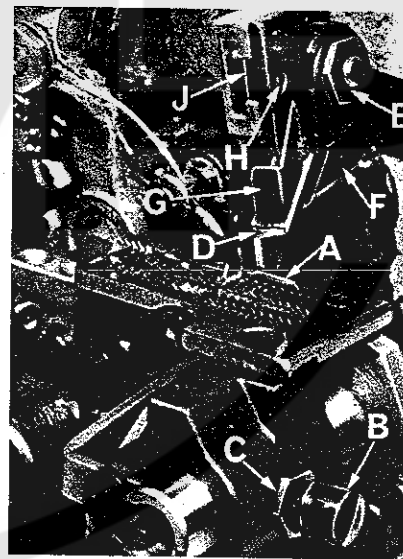

Fig. 13
Replace lower knife holder assembly. Lower knife (A, Fig. 13) should be set with cutting edge flush with throat plate surface. Adjustments are made with hexagonal head screw which holds lower knife. Lower knife is spring pressed against upper knife, so no lateral adjustment is necessary when width of trim is changed.
Replace upper knife assembly. Clamp upper knife (D, Fig. 13) in position, setting nut (E) to hold clamp (F) in its most clockwise position against upper knife. Upper knife chain guard (G) should be positioned so that the guarding section is approximately 1/64 inch behind the cutting edge and in contact with the top surface of the upper knife.